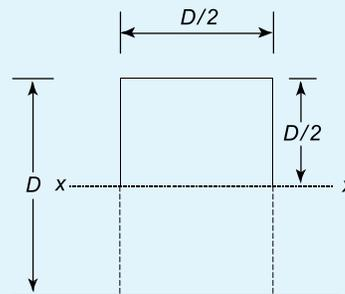

Figure 9.10
4. If the cross-section of the beam of Problem 3 were of rectangular shape, as shown in Figure 9.10, determine its dimensions. Bending can be assumed to take place about the xx axis.